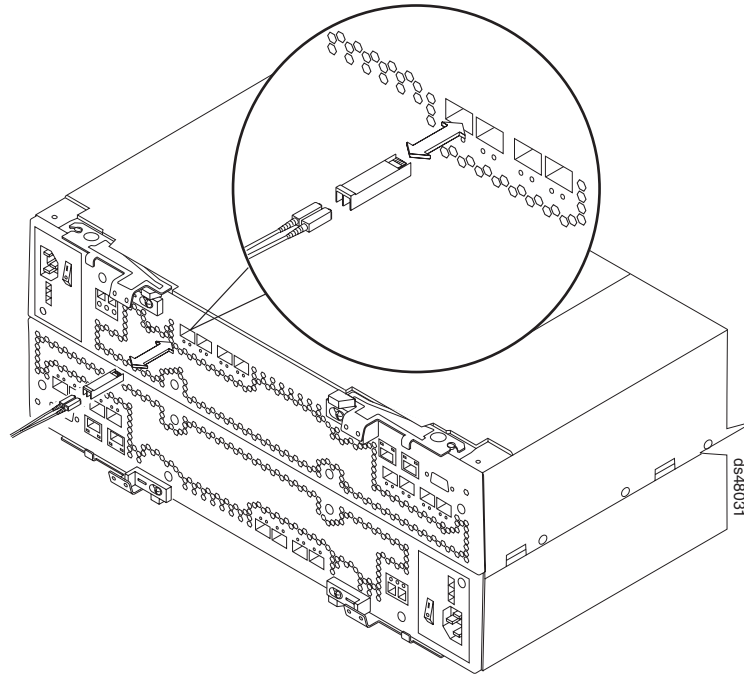

Figure 31. Installing an SFP module and LC-LC cable in a DS4800
2. Connect an LC-LC fiber-optic cable into the SFP module, as shown in Figure 31.